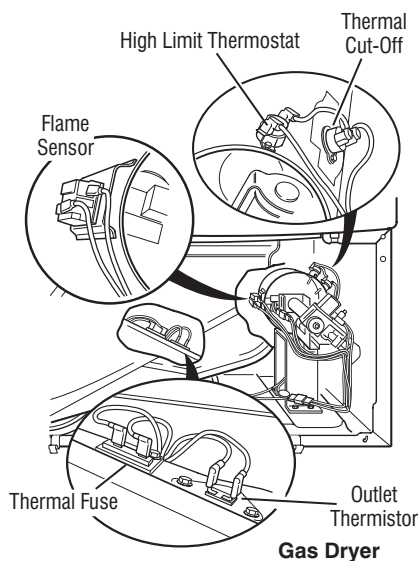

Figure 11 - Thermal components, gas dryer, viewed from front.
5. Locate the high limit thermostat (see figure 11, page 16). Measure the continuity through it by connecting the meter probes to the red and black wire terminals.